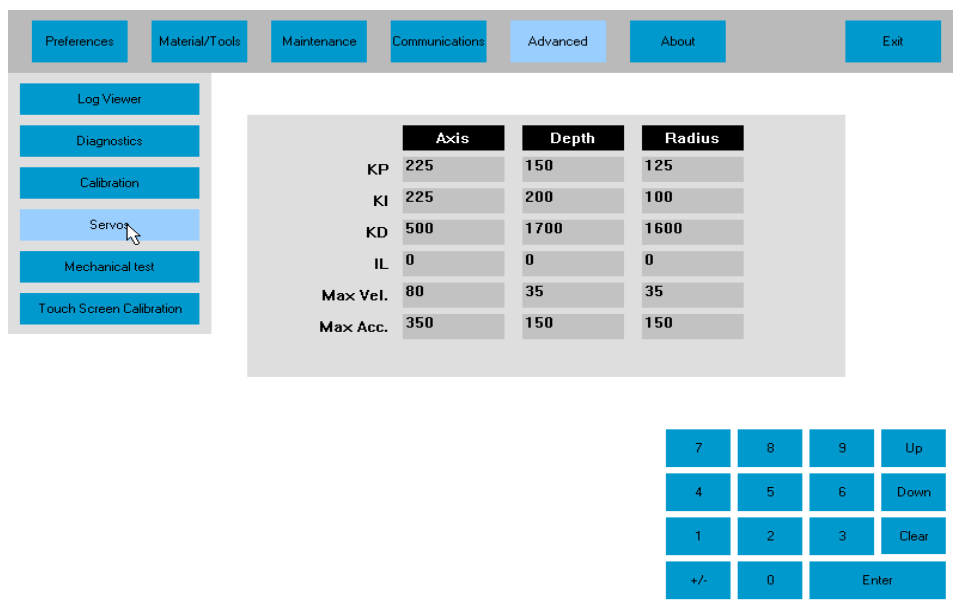

Figure 5.4: Servo Screen
- Servo Screen (Figure 5.4)
The Servo Screen is shown in Figure 5.4. The servo motors on the Axiom are controlled by a series of equations that determine how the motors will respond to changes in drive current and changes in load. These equations are solved using several constants that are displayed or set on the Servo Screen. In addition, the maximum velocity and acceleration for each axis may be set or viewed on the Servo Screen. These values are set when a machine leaves the factory or during installation, and do not generally require user modification.